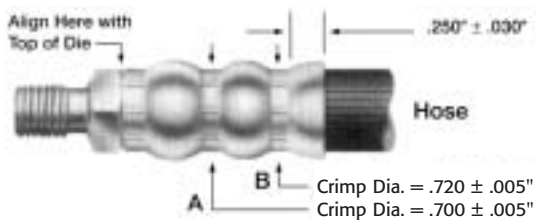

Fig. 6
11. Measure the Crimp O.D. per Fig. 6. Crimp O.D. must be within the specified tolerance.